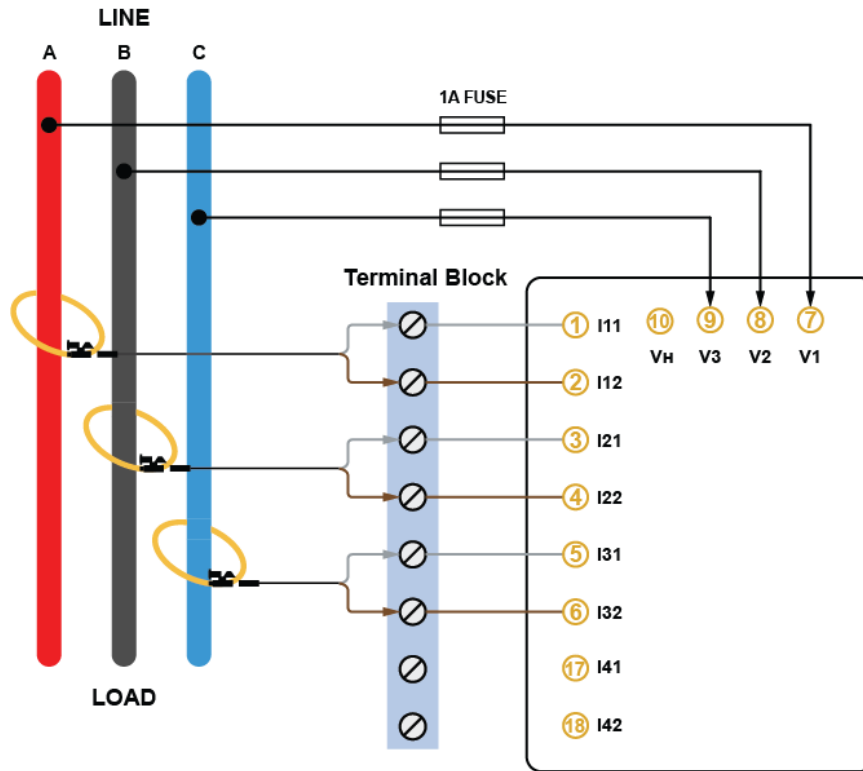

Figure 3: Wiring the power meter and Rogowski Coils (3LL-3CT)
1. Wire the power meter and the CTs in 3LL-3CT configuration, as shown in Figure 3.